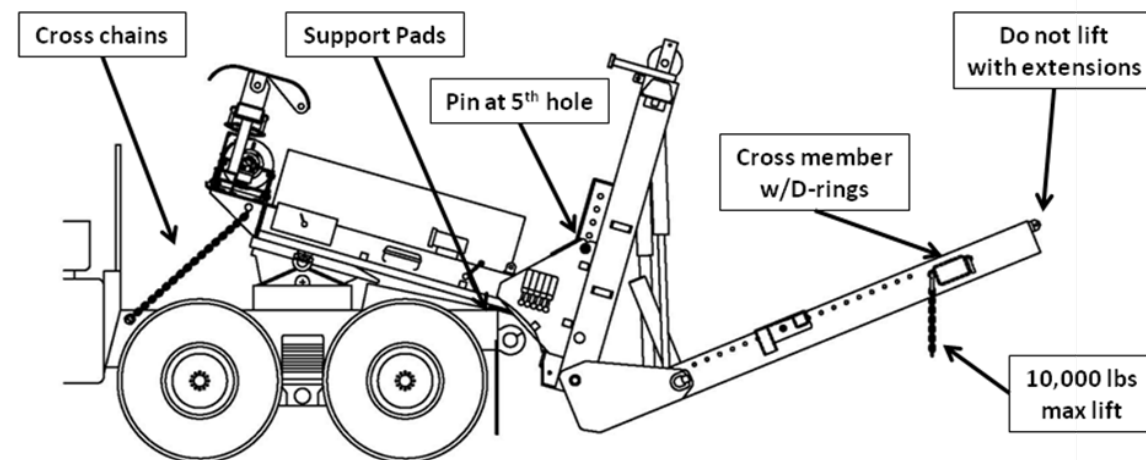

Figure 5 – Key points, Basic Lift with FWTRD
9. Using the remote control “EXTEND” the mast and pin at the fifth hole setting. (figure 5)
11. Utilize 1/2” chains from the BII at the FWTRD boom cross member D-rings and attach to the load to be lifted. Always position the load directly under the lifting point. (figure 5)